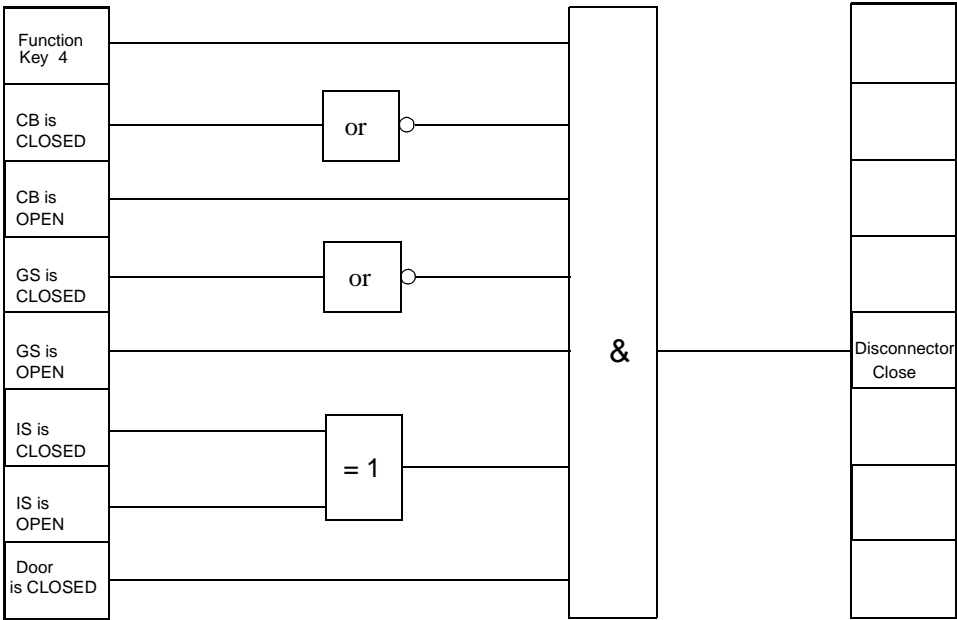

Figure 5-39 Interlocking an Disconnect Switch as an Example of a User Defined Interlock Protective Function
Interlocking logic (see Figure 5-39) is to be implemented for the operation of an isolating switch using function key 4. The user must take the switch position indications of the corresponding isolation switch and the grounding switch into account. The CLOSE and TRIP indications from the auxiliary contacts of each switch are used.
- The CLOSE indications from the circuit breaker (CB) and from the grounding switch (GS) are supplied to the inputs of the NOR functions.
- The OPEN indications from the circuit breaker (CB) and from the grounding switch (GS) are supplied to the inputs of the AND function.
- The switch position indications from the disconnect switch (IS) are linked to the inputs of the XOR function.
- Function key 4 is linked with an input of the AND function.